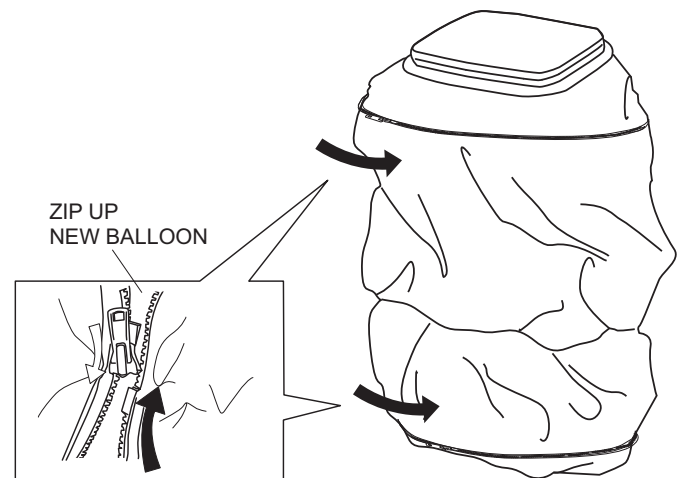

Figure 43. Zipping Up New Balloon
4. Zip up the top and bottom of the new balloon. See Figure 43.